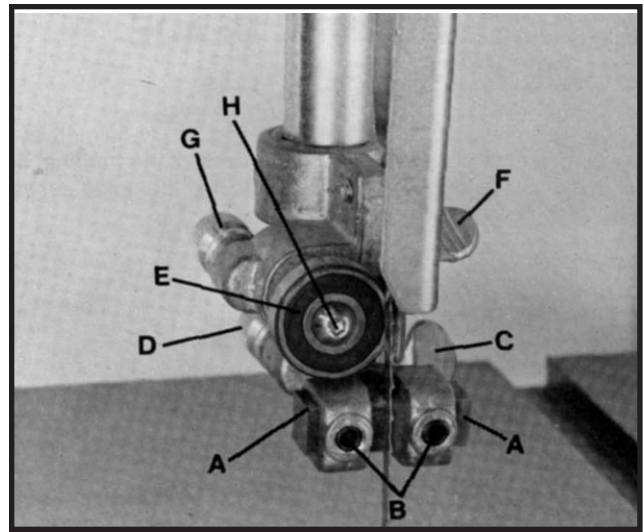

Fig. 23
1. The upper blade guides (A) Fig. 23, are held in place by means of the set screws (B). Loosen the set screws (B) to move the guides (A) as close as possible to the side of the blade, being careful not to pinch the blade. Then tighten the screws (B).
2. The guides (A) Fig. 23, should then be adjusted so that the front edge of the guides are just behind the "gullets" of the saw teeth. The complete guide block bracket can be moved in or out by loosening thumb screw (C) and turning knurled knob (D) Fig. 23. When guides (A) are set properly, tighten thumb screw (C).
3. The upper blade support bearing (E) Fig. 23, prevents the blade from being pushed too far to the back which could damage the set in the saw teeth. The support bearing (E) should be set  $1/64$  behind the blade by loosening thumb screw (F) and turning knurled knob (G) to move the support bearing (E) in or out.
4. The blade support bearing (E) should also be adjusted so the back edge of the blade overlaps the outside diameter of the ball bearing by about  $1/16$ . The bearing (E) is set on an eccentric and to change position remove screw (H) and bearing (E) Fig. 23. Loosen thumb screw (F), back out screw (G) and re-position shaft that bearing (E) is attached to.